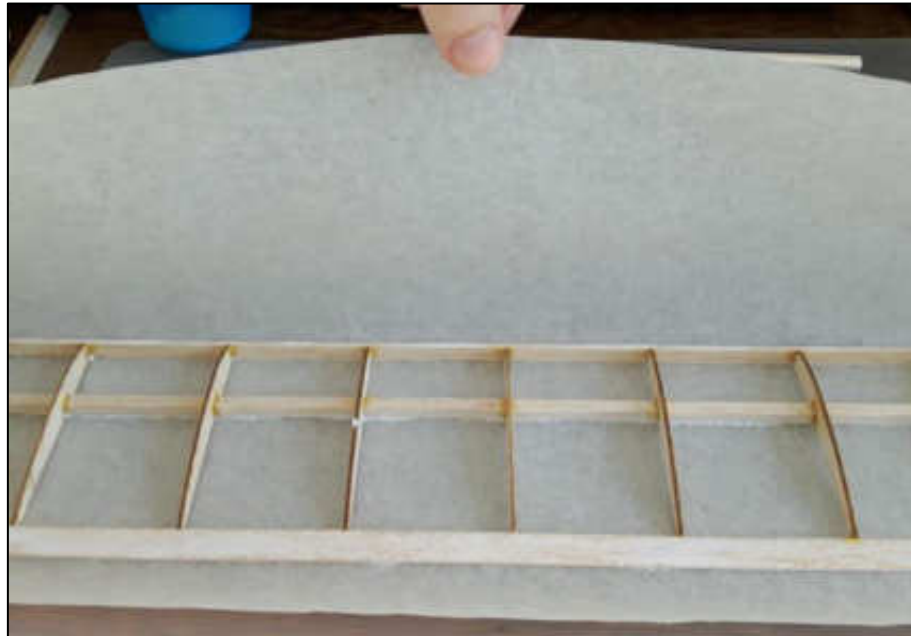

Figure 33: Attaching the wing skin to the wing structure.
33. Pull the tissue paper over the top of the wing, pressing down firmly on the trailing edge and the wing tip, Figure 33.